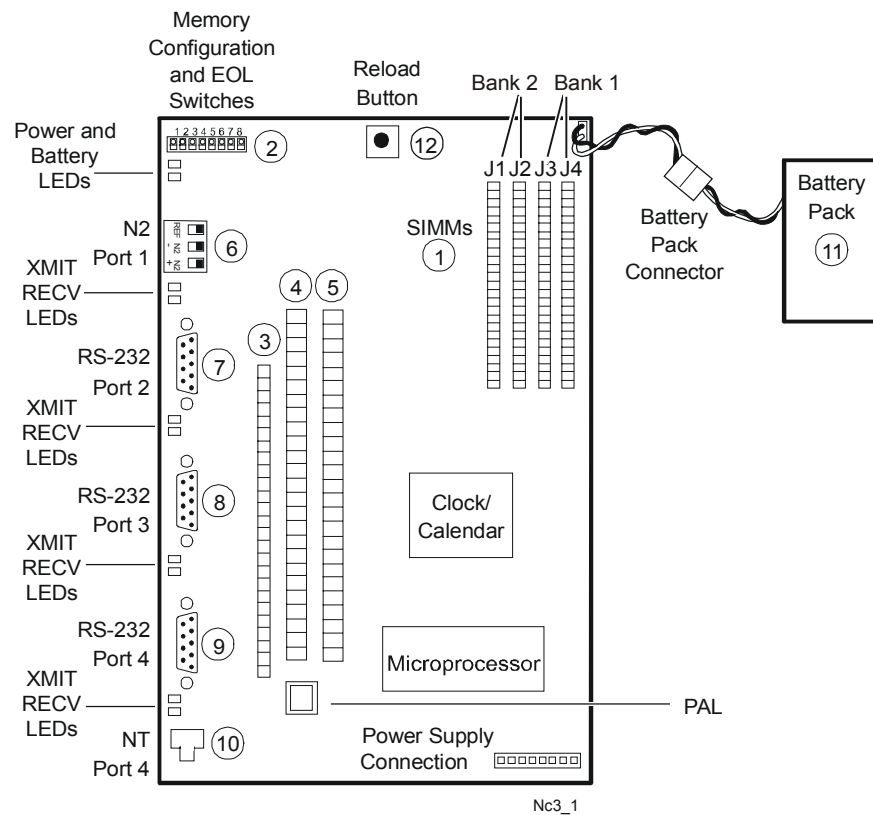

Figure 1: Block Diagram of the NCM
Figure 1 illustrates the basic components and functions of the NCM, including callouts referenced throughout this document.
For the -0, -1, and -2 versions of the NCM300/350, Johnson Controls provides four DRAM memory configurations: 2 (default), 4, 6, and 10 MB. The SIMMs (Item 1 in Figure 1) are located under the battery pack. DIP switches on the board (Figure 1: Callout 2) set the memory configuration that has been installed.
This circuit board (Figure 1: Callout 3) provides Read-Only Memory (ROM) to the NCM. (For the NCM350 or NCM361, Flash memory replaces the ROM.)
The N2 Bus communications also are provided by a built-in interface (Figure 1: Callout 6). Devices on the N2 Bus constitute a local network, controlled by the NCM. The NCM polls the devices according to a user-set priority level, which is set at each device's Definition window.
The NCM is equipped with two ISA slots. These slots can hold 16 bit ISA cards (Figure 1: Callouts 4 and 5). These slots allow for the use of off-the-shelf communication cards (either 8 or 16 bit).
- LONWORKS® interface card; Slot 2 only (Figure 1: Callout 5)
- Media Interface Board (MIB-OWS) must be placed in Slot 2 (Figure 1: Callout 5) (NU-NCM300-FIRE or NU-NCMFIRE-1)
ARCNET Card	ARCNET LAN communication is provided by a standard ARCNET card (Ordered separately. See Specifications and Order Codes for more information.) connected into ISA Bus Slot 1 (Figure 1: Callout 4).
Ethernet Card	<p>An Ethernet card (Ordered separately. See Specifications and Order Codes for more information.) connected into ISA Bus Slot 1 (Figure 1: Callout 4) of the NCM350 allows you to connect the Metasys system directly to an Ethernet network. This allows you to communicate with other devices on the Ethernet LAN, without the use of an Ethernet Router. Metasys system functionality is the same on both the Ethernet and ARCNET LANs.</p> <p>Note: You can use either an Ethernet or an ARCNET card in a single NCM350. If you wish to have both ARCNET and Ethernet connections, you must use the ARCNET LAN and connect to Ethernet using the Ethernet Router. For details, refer to the Metasys Ethernet Router Technical Bulletin (LIT-6295035).</p> <p>You cannot do smoke control on an Ethernet network where UL 864 is required. See the Smoke Control Restrictions section of the Smoke Control Technical Bulletin (LIT-636330).</p>
LONWORKS Network	<p>The LONWORKS network allows communication between the Metasys network and LONWORKS compatible devices using the LONWORKS compatible interface cards as follows:</p> <p>NU-NET201-0 DX-9120 controllers on N2E Bus (N2E-TP78)</p> <p>NU-NET202-0 DX-9121 controllers on N2E Bus (N2E-FTT10)</p> <p>NU-NET203-0 LONWORKS compatible devices (requires Metasys Release 10.0 or later software) (LON-FTT10)</p> <p>NU-NET203-1 LONWORKS compatible devices (requires Metasys Release 11.00 or later software) (LON-FTT10)</p> <p>The LONWORKS interface card must be inserted in Slot 2 (Figure 1, Callout 5) of the NCM.</p> <p>The LONWORKS network carries all communication between the NCM and the DX-912x or LONWORKS compatible devices and between the devices themselves. The types of data that are transferred across the network include:</p> <ul style="list-style-type: none"> commands from the NCM to the devices automatic reporting of alarms and change-of-logic states from the DX-912x to the NCM (N2E Bus only) responses from the devices to the NCM, including identification and requested data values complete databases for the DX-912x controllers (N2E Bus only) time synchronization message from the NCM analog and binary point data shared between devices <p>To meet FCC and CE standards for the N2E Bus installation, install ferrite clamps and beads. For detailed information, refer to the LONWORKS N2E Bus Technical Bulletin (LIT-6364100).</p>
Media Interface Board	The Media Interface Board (MIB-OWS) is a communication card that allows the Fire-Net NCM to be connected to the Metasys Intelligent Fire Network. Insert the MIB-OWS in the second ISA slot (Figure 1: Callout 5). Detailed information on setting up the NCM as a Fire-Net NCM can be found in Appendix A: Fire-Net NCM of this document.
Table 4 shows the three RS-232 ports (see Figure 1: Callout 7, 8, 9, 10), each connecting to communications options (the port applications are described more fully in Table 5).
Port 2	(See Figure 1: Callout 7) an external modem, either Plain Old Telephone Service (POTS) or ISDN, which can connect to remote operator devices such as a printer or OWS a printer (direct or dial-up connection) OWS (direct or dial-up connection) Operator Terminal (direct or dial-up connection) S2 Migration Trunk JC/85 Trunk Network Port communications a second N2 Bus, via an MM-CVT101
Port 3	(See Figure 1: Callout 8) printer (direct or dial-up connection) OWS (direct or dial-up connection) Operator Terminal (direct or dial-up connection)
Port 4	(See Figure 1: Callout 9 and 10) Only one Port connection is allowed, to either the 9-pin RS-232 connector (Figure 1: Callout 9) or the RJ-12 connector (Figure 1: Callout 10). Operator Terminal (directly connected) Network Terminal or NT Emulator
Port 2	direct or dial-up connection via an RS-232 (Figure 1: Callout 7)
Port 3	direct or dial-up connection (Figure 1: Callout 8) (Dial-up connection is not recommended here because you lose the unconfigured laptop connection.)
Port 4	direct connection via an RS-232 (Figure 1: Callout 9) or using an RJ-12 connection (Figure 1: Callout 10)
ISA Slots 1 and 2	direct or dial-up connection (Figure 1: Callout 4 or 5)
Network Terminal	<p>The Network Terminal, which provides local operator I/O, connects to the RJ-12 connector (Figure 1: Callout 10) portion of Port 4.</p> <p>The Network Terminal Emulator connects to the 9-pin RS-232 connector (Figure 1: Callout 9) portion of Port 4.</p>